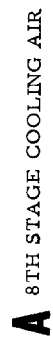

Figure 1-4. Engine Airflow (Typical)
1-17. Air enters the engine (See figure 1-4.) through the compressor inlet guide vane and shroud assembly (1). Air from this source enters the front compressor (2), which consists of eight rotor stages and seven vane stages. The gas path of this compressor has an increasing inside diameter and a decreasing outside diameter. The front compressor provides initial compression of air.
1-30. COMPRESSOR AIR. (See figure 1-4.)